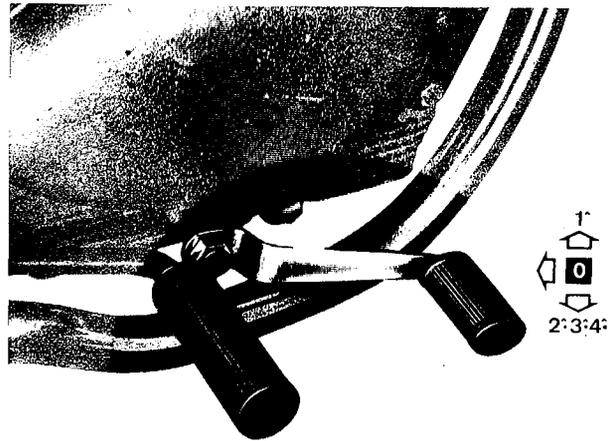

Fig. 18
Pull the clutch lever as far as it will go, push the gear-box pedal upwards to pass from neutral (0) to 1st gear (see fig. 18). Then gradually release the clutch lever at